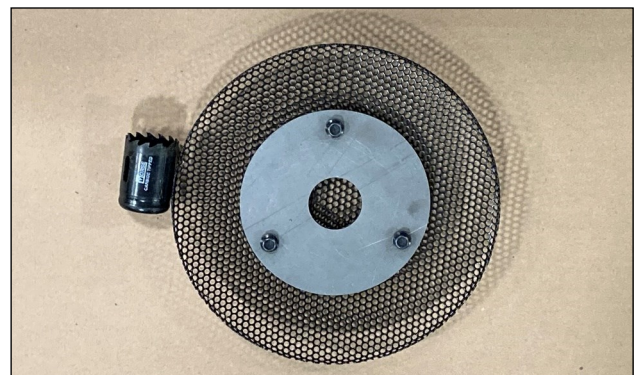

Fig. 1.5 (Cut hole in mesh screen)
- 1.5 See fig. 1.5. Take the metal drill template and hardware from the small polybag from the small hardware box. Attach the template to the underside of the mesh screen using the hardware from the polybag.